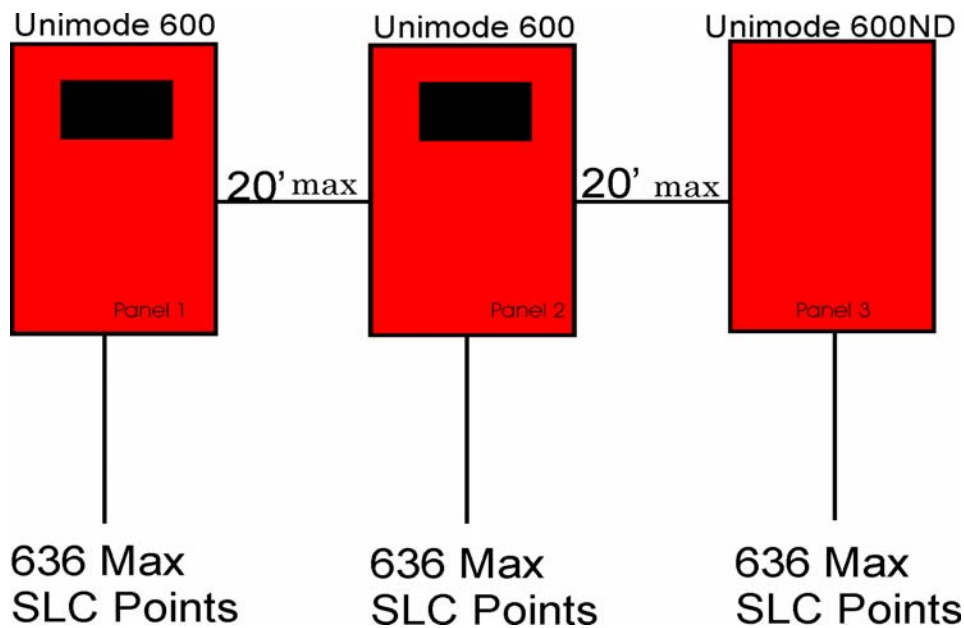

Figure 5-1 Direct Connect Wiring Option
When networking a group of Unimode 600s and/or Unimode 600NDs within a 20 foot radius of each other, you may use the direct connect method to link the panels together in the site. The cable used must be shielded twisted pair communication grade cable. See Figure 5-1, direct connect wiring option. The direct connect wiring option uses a BUS configuration. There are no T-taps or class A wiring options.
1. Mount the Unimode 600 and/or Unimode 600ND panels within 20 feet of conduit run distance from each other. Place the conduit for routing the direct connect networking cable between panels in a bus configuration as shown above in Figure 5-1.